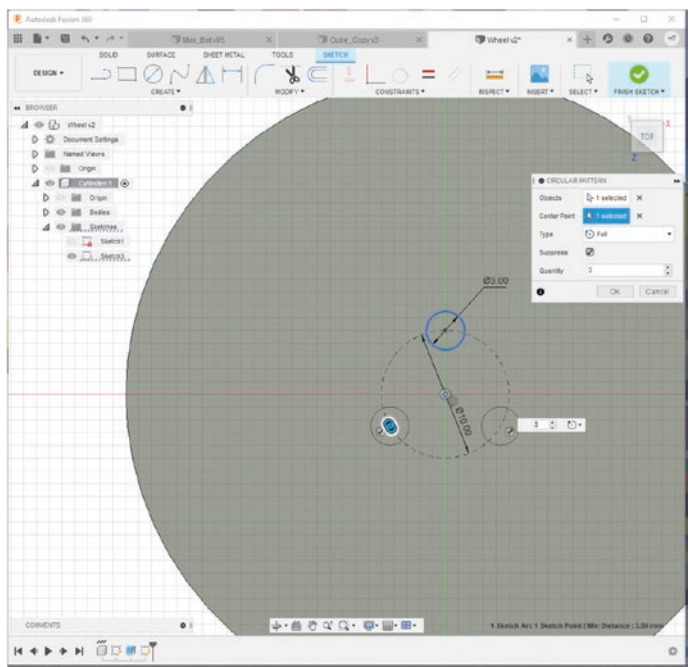

Figure 8-15. Notice three circles populate on the cylinder
- 7. Select the 3mm circle as the “Object,” and the “Center Point” will be the center of the 10mm circle. You will notice once you select these, you will have three circles on the screen; you can add more just by increasing the quantity. See Figures 8-15 and 8-16. Click “OK” when you are done, and you will see that these circles have been populated.